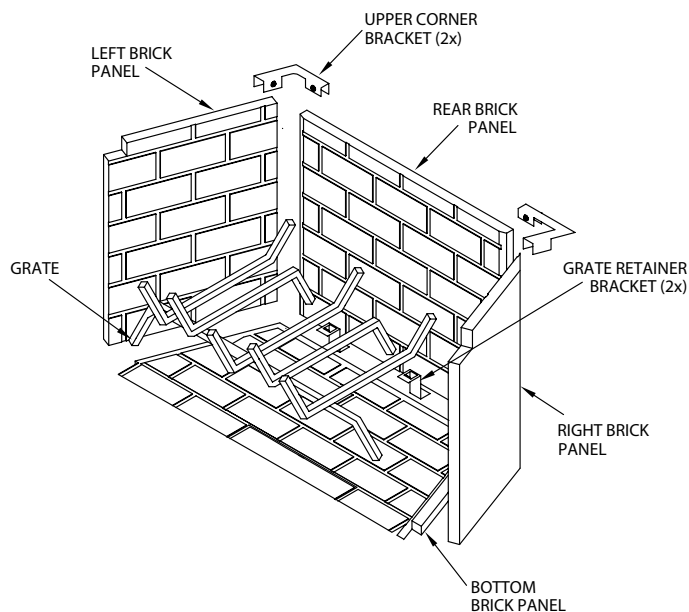

Figure 36a- Installing Refractory Panels
5. Install upper corner brackets and tighten set screws (see Figure 36a).
6. Install grate by placing rear legs into slots in the grate retainer (see Figure 36a)